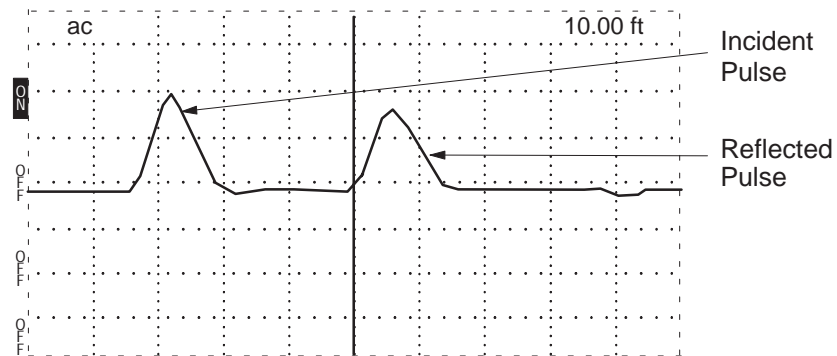

Figure 2-2: Cursor of Rising Edge of Reflected Pulse
- The first (left) pulse is the incident pulse, as sent from the pulse generator (see Figure 2-2). The second bump is the reflected pulse, as it bounces back from the end of the cable. The reflected pulse and the time between pulses provides the information needed for calculating the distance between faults or the end of the cable.